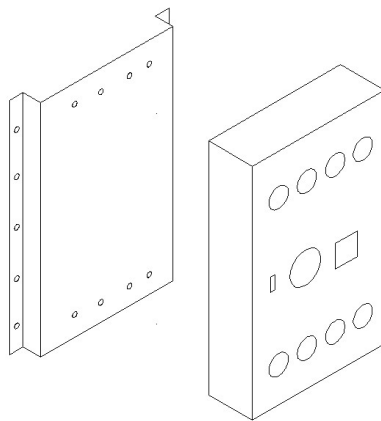

Fig. 2.26
1)Install the control box into to wall panel near the generator shown in Fig.2.26,and install the installation panel onto the wall with nail,then install the control box on to the panel.